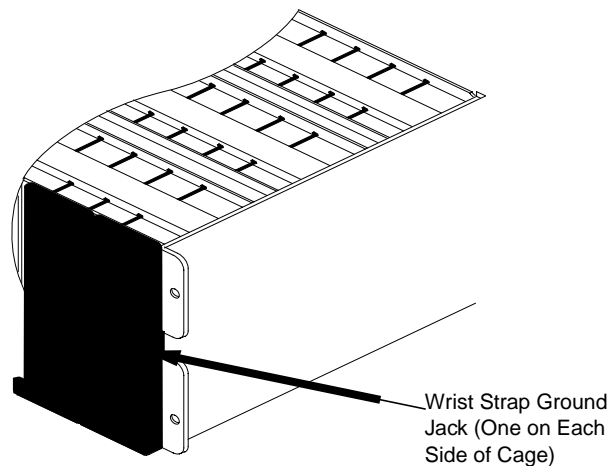

Figure D-3: Location of the Ground Jack for the Wrist Strap Connection
1. Wear a wrist strap (Motorola Part No. 4280385A59, or equivalent) during all service procedures to minimize static buildup. The cage contains ground jacks to connect to the wrist strap (see Figure D-3).